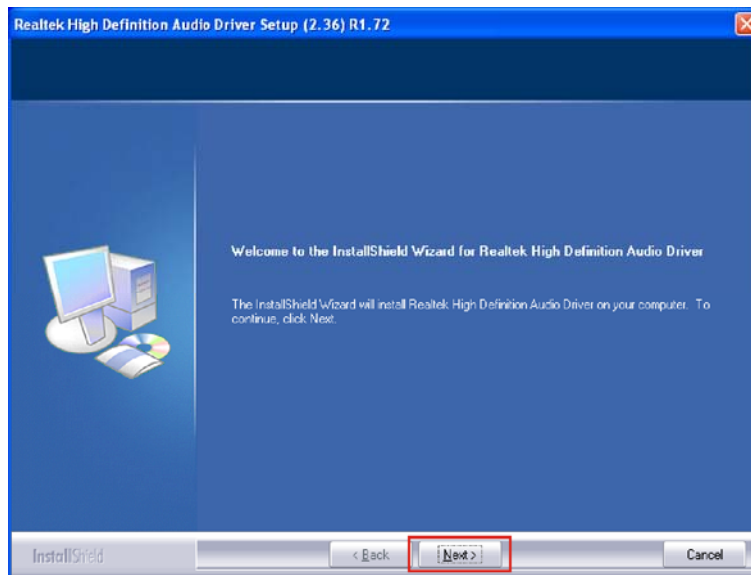

Figure 7-22: InstallShield Wizard Welcome Screen
Step 3: The audio driver InstallShield wizard begins (**Figure 7-22**).